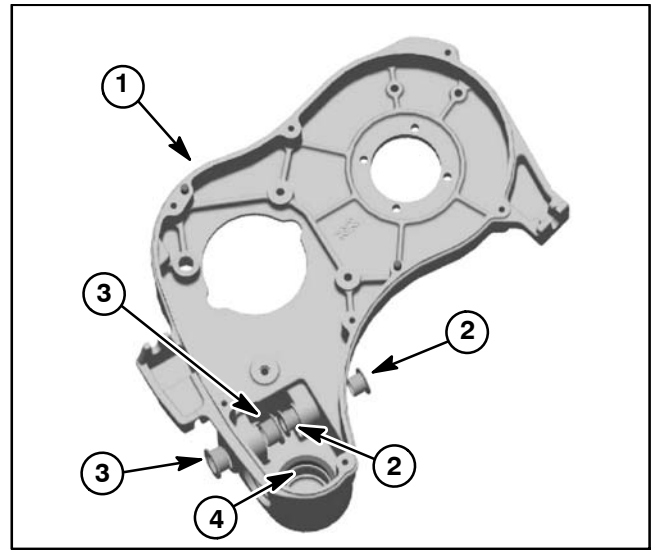

Figure 40
4. Remove retaining ring (item 5) that secures reel clutch lever (item 10) in transmission housing. Slide reel clutch lever from housing. Note missing tooth in spline area of lever which is used for alignment with reel clutch fork (item 16).
5. Pull reel clutch shaft assembly from transmission housing. NOTE: If ball bearing (item 28) on reel clutch shaft assembly is seized in housing, refer to Removing Seized Reel Clutch Shaft From Transmission in this section for removal procedure.
6. Inspect flange bushings and reel brake ring for wear or damage (Fig. 40). Replace bushings and brake ring if necessary.